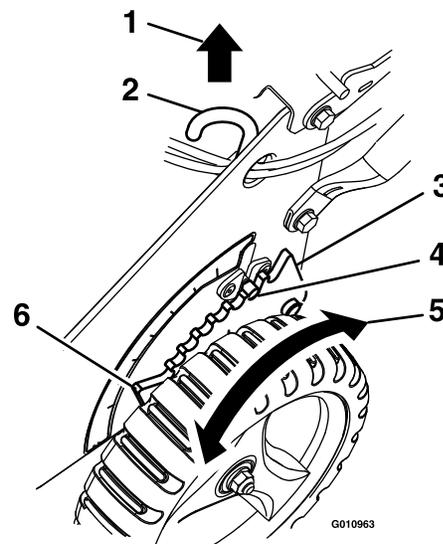
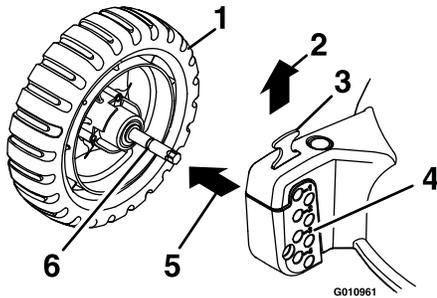

Figure 15
Figure 16
3. Set all four wheels to the 2 1/2 inches (6.4 cm) cutting height (see Figure 15 and Figure 16)
1. Pull the wheel height adjustment rod upward to release the pin from the notch in the adjustment bracket (Figure 15).
1. Pull up on the height adjuster and pull the front wheel shaft assembly outward as shown in Figure 16.